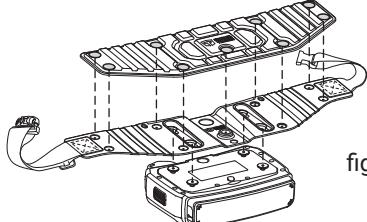

fig.9
4. Attach the soft pad onto the belt using the 8 snap buttons (See fig.9)